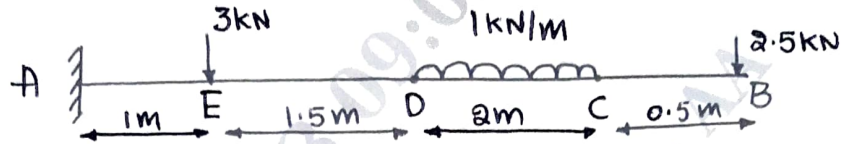

Fig. Q3 (c)
- c. A Cantilever of length 5.0 m is loaded as shown in Fig. Q3 (c). Draw S.F and B.M diagram for the cantilever.